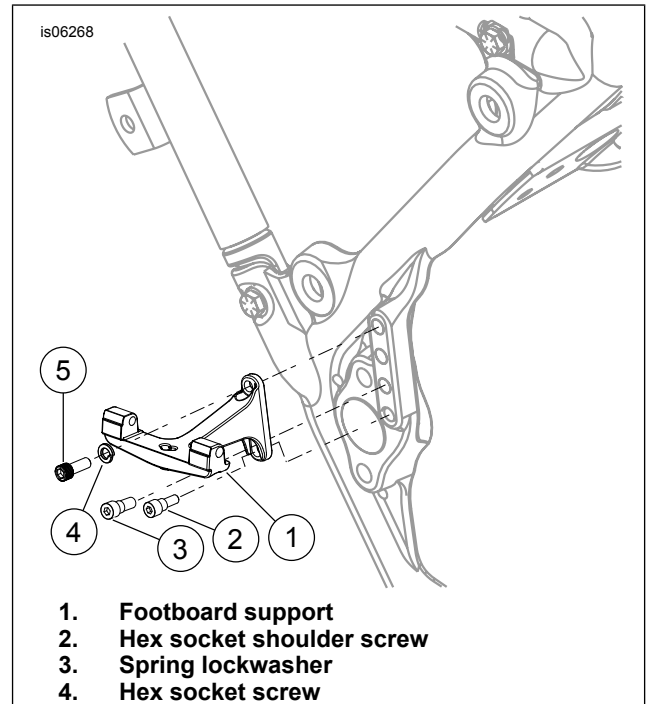

Figure 1. Footboard Support Installation
1. See Figure 1. Insert shoulder bolt (2) or (3) through slot in footboard bracket (1). Tighten the bolts to 5–8 N·m (48–72 in-lbs).
- a. **2010 and Later Models:** Thread the 5/16 inch shoulder bolt (2) into the **lowest** hole in the rear swingarm bracket of the frame.
- b. **2009 and Earlier Models:** Thread the 3/8 inch shoulder bolt (3) into the **second lowest** hole in the rear swingarm bracket of the frame.
2. At the desired height, install the upper screw (5) and lockwasher (4) through footboard bracket (1). Tighten screw to 49–56 N·m (36–42 ft-lbs).